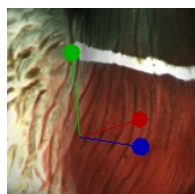

Figure 8.8.: Scaling control
- Drag the origin of the control (Figure 8.8.) or either of its round ends in the *3D View* window.